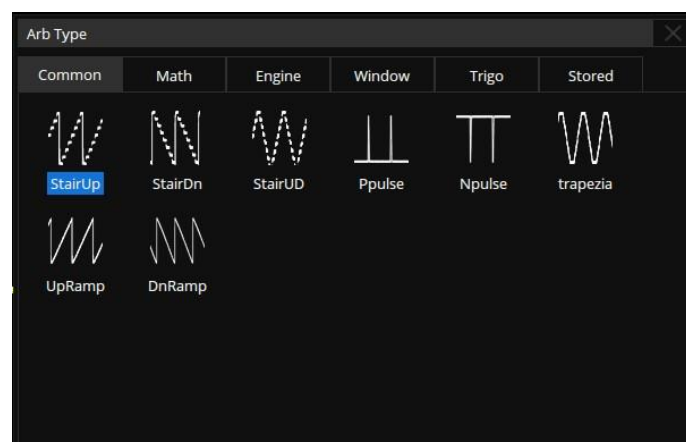

Figure 21.2 Arb Type Window
- The Arbitrary waveforms consist of two types built-in waveforms and stored waveforms. Touch Arb Type in the AWG dialog box, and select the arbitrary in the pop-up window shown in figure 21.2